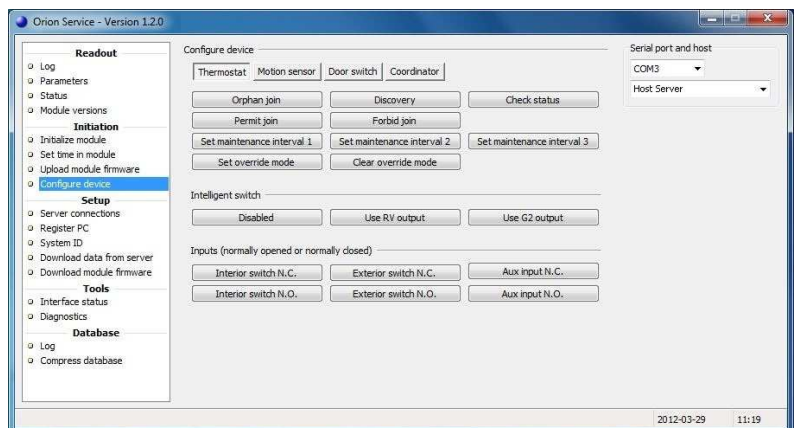

Figure 29
10. Choose the **Thermostat** tab of the **Configure device** section in Orion Service. Click the **Forbid Join** button; see Figure 29. Failure to perform this step will result in problems when setting up the network in nearby rooms.